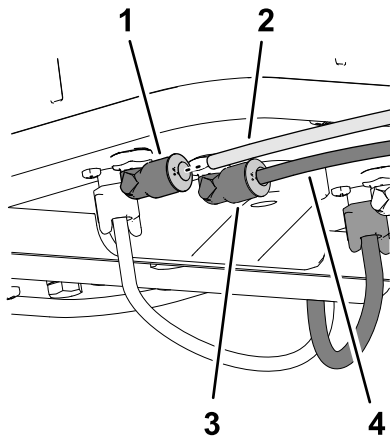

Figure 142
- Insert the clear tube into the air fitting at the side compressor plate (Figure 141 and Figure 142).
3. Insert the blue tube into the liquid fitting at the side compressor plate (Figure 141 and Figure 142).
5. Insert the clear tube into the air fitting at the side compressor plate (Figure 141 and Figure 142).
6. Insert the blue tube into the liquid fitting at the side compressor plate (Figure 141 and Figure 142).